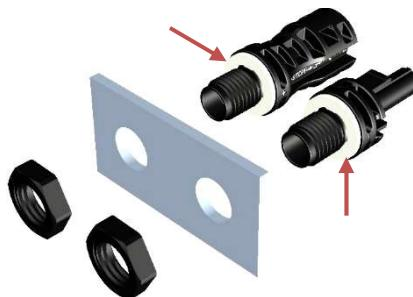

Figure 16
- ◊ 在公/母面板连接器插入钻孔前，请确保已安装防水垫圈，且防水垫圈安装在墙板的外侧 (如图 16)。
Please ensure seal gasket is located and positioned outside of the mounting surface before the male or female panel connector inserts the drilled hole (Fig.16).